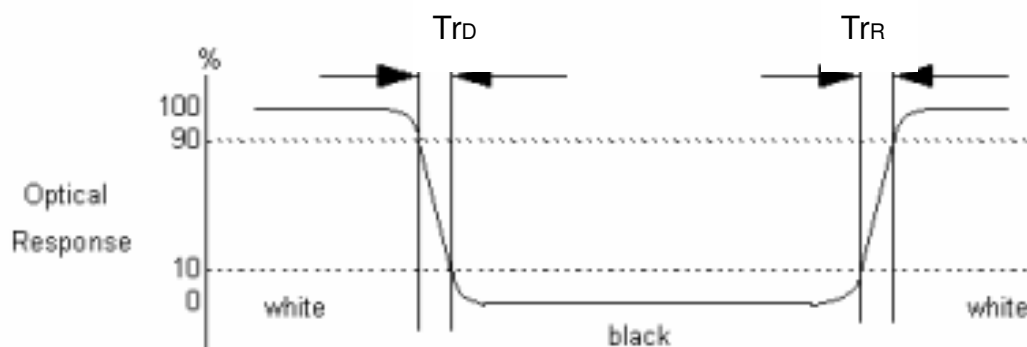

Fig.4-3 Response time
4. Response time is the time required for the display to transition from white(L255) to black(L0) (Decay Time, $T_f=Tr_D$), and from black(L0) to white(L255) (Rise Time, $T_r=Tr_R$). For additional information see Fig. 4-3.